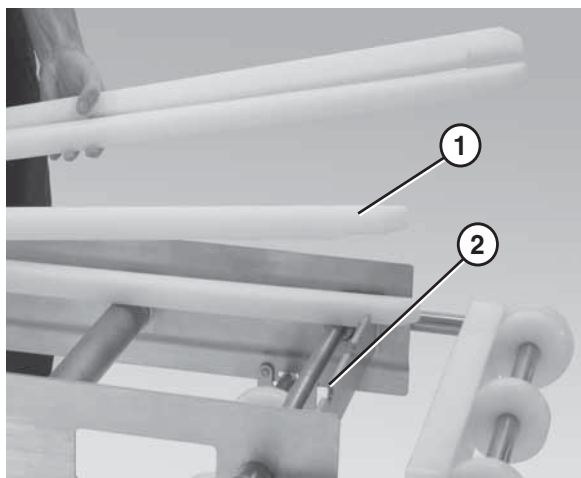

Figure 32
1. Position the wear strips (Figure 32, item 1) on the frame.
2. Make sure the wear strips are situated securely in the frame slots (Figure 32, item 2).